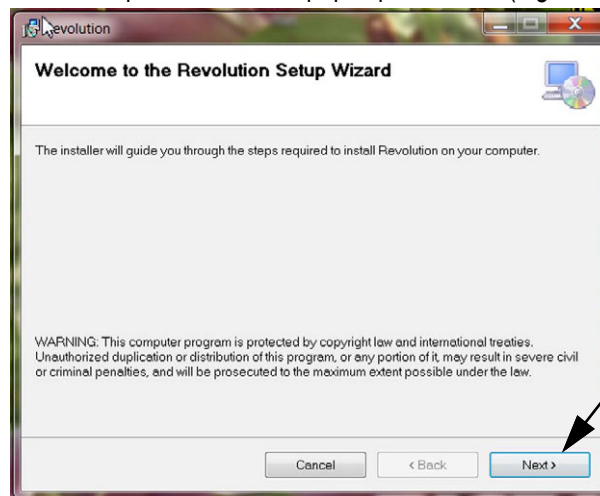

Figure 4-35. Welcome Screen
3. The Welcome to the Revolution Setup Wizard screen pops up, click **Next** (Figure 4-35).